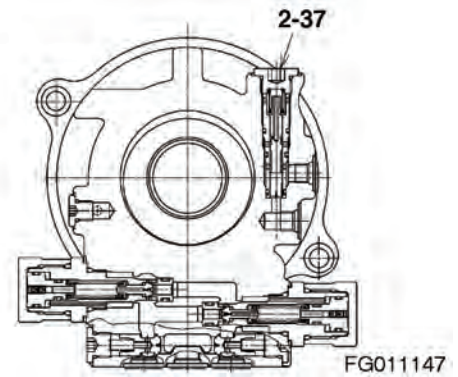

Figure 35
- A. Remove the plug (2-37, Figure 35)